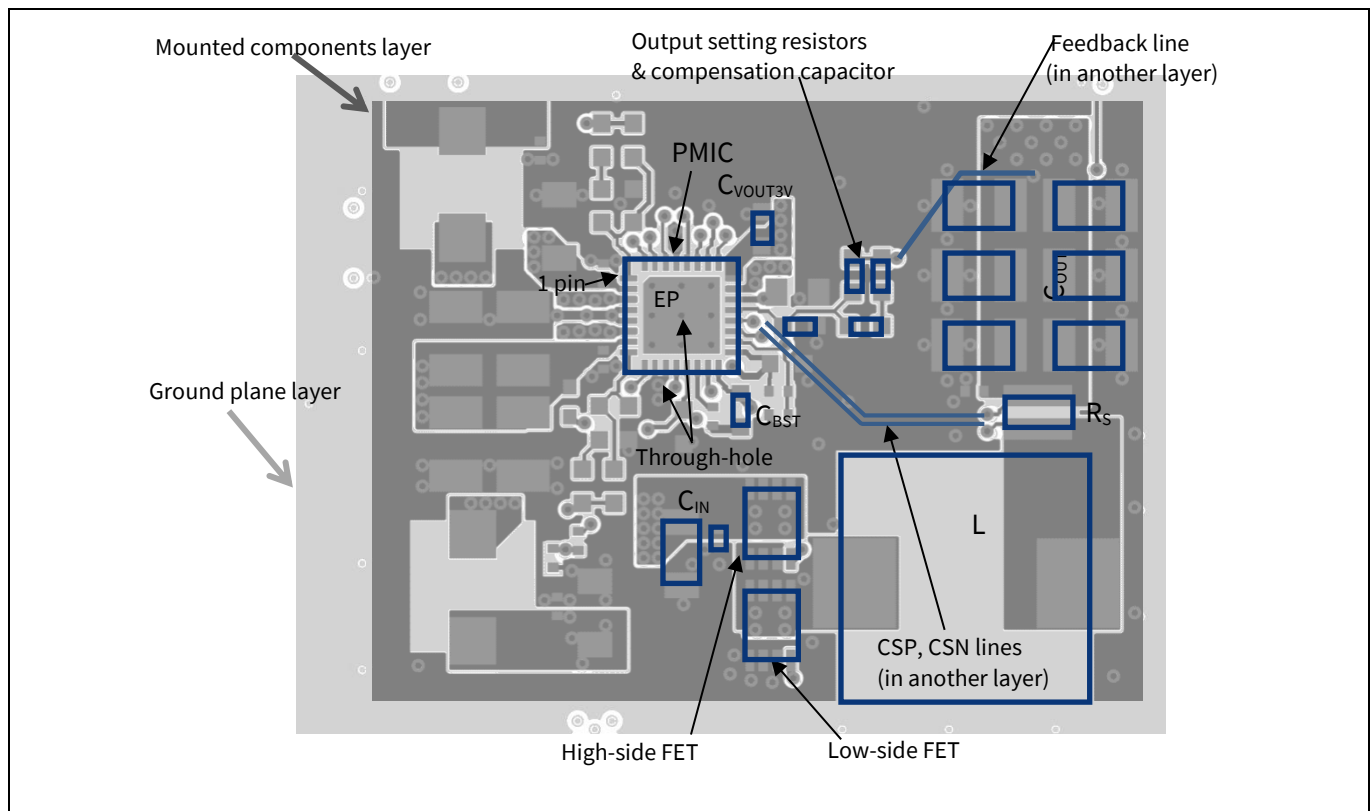

Figure 9 Layout example of DD3V
Figure 9 shows an example layout of the DC/DC converter (DD3V) section shown in Figure 4.
Place a solder pad under the exposed pad (EP) of the PMIC. For heat dissipation, connect this EP footprint to the inner GND layer by through-holes. (Refer to Figure 9.)